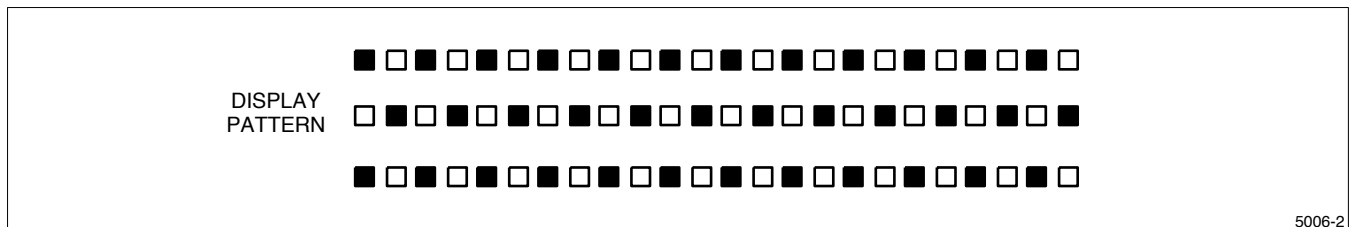

Figure 3. Display High Frequency Pattern
- Display high frequency pattern: $V_{DD} - V_{SS} = 3.3\text{ V}$, $V_{DD} - V_{EE} = 23.9\text{ V}$, frame frequency = 85 Hz, display pattern = 1-bit checker (Figure 3).